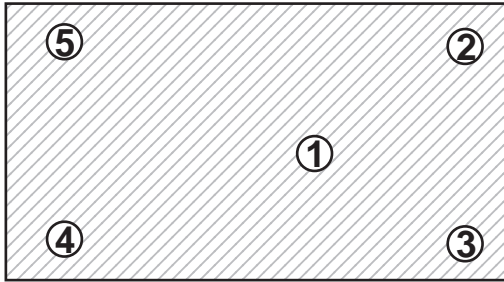

Figure 6. Power Assembly Mounting Screw Sequence
5. Tighten the screws to 2 Nm torque, according to the sequence shown in figure 6.